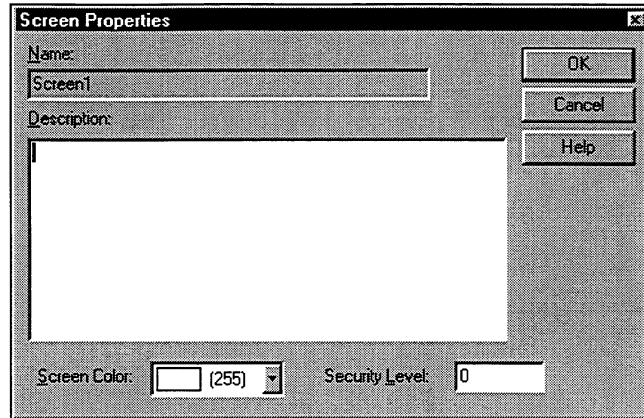

Figure 6-4. Screen Properties Dialog Box
3. Select the Screen command from the submenu. The Screen Properties dialog box opens, as shown in Figure 6-4.